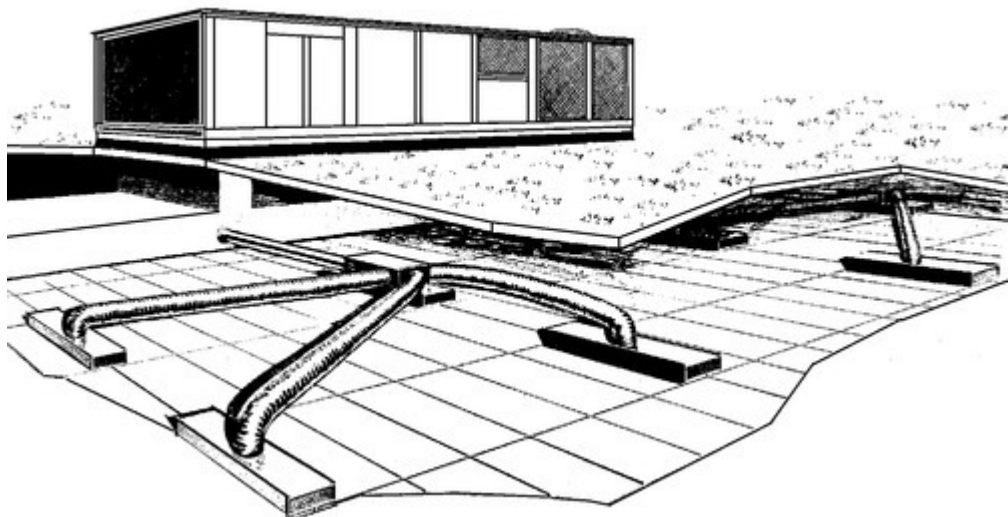

Figure 2. Single-Package Air Equipment with Variable Air Volume
- **Single-package, variable-volume**, which consists of several controlled spaces served by one unit. Supply air from the unit is at a constant temperature, with air volume to each space varied to satisfy space demands (Figure 2).